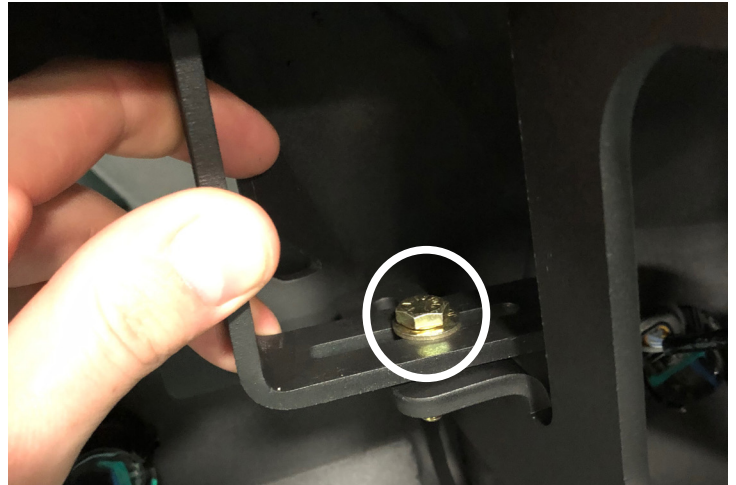

Figure 21
20. If applicable: Install your 30" light bar at this time using a 7/16" socket and the L-brackets (21871) along with the provided 1/4" bolts, washers and nuts (50186-HW). (Figure 21)